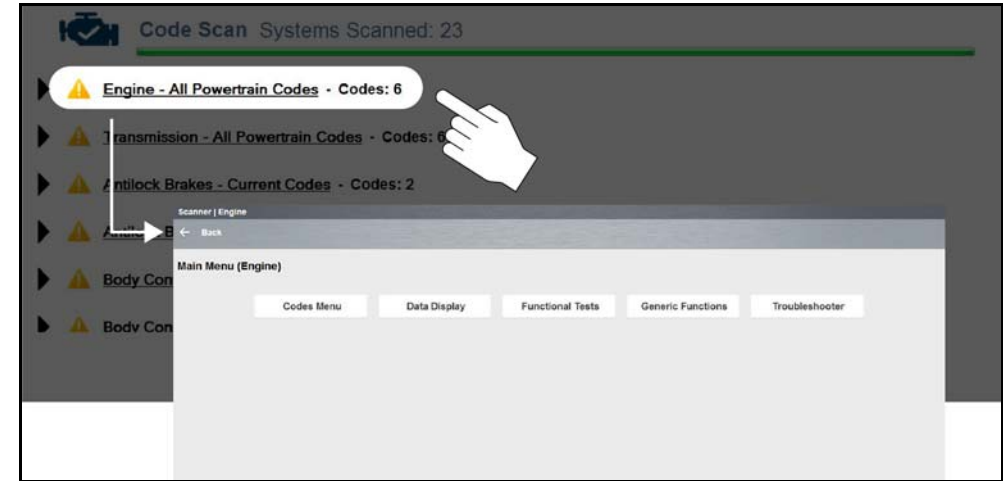

Figure 4-14 System title (opens System Main Menu)
- **Systems Code list with totals** - A categorized system list with code totals is displayed in the order they are scanned. To view the main menu for a system in the list, select the system title (Figure 4-14).